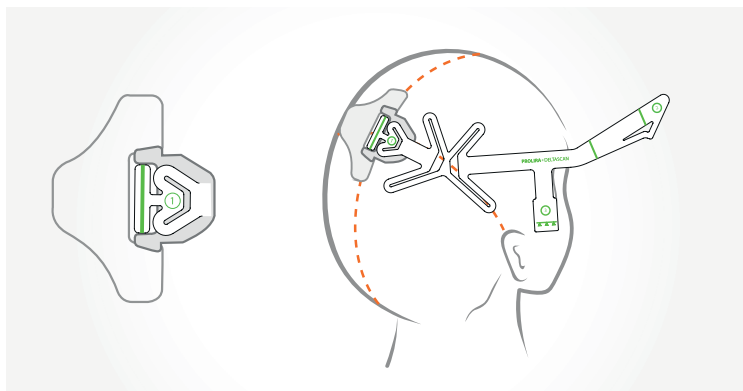

Figure 14: Position electrode 1 (the green stripe) of DeltaScan Patch on the crown of the head, in the HairLock slot, if a HairLock is used.
- Position the electrode (indicated by a green stripe) on the crown of the patient's head (in the HairLock slot if a HairLock is used), as indicated in Figure 14.